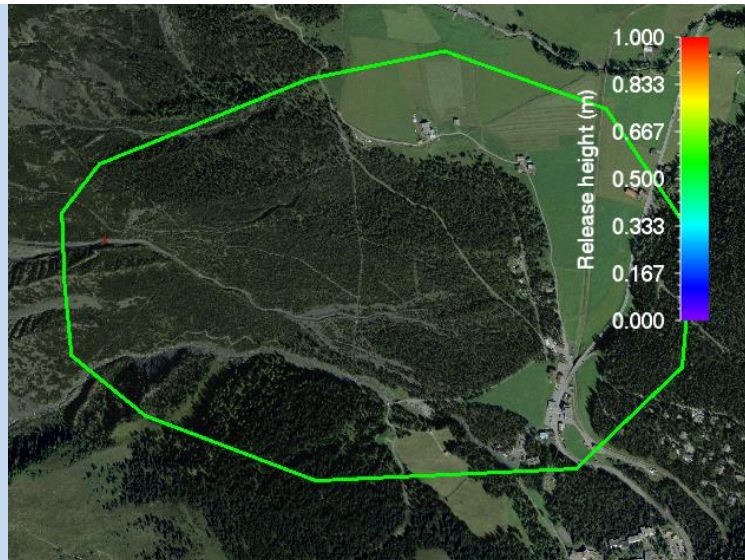

Figure 3.41: Input file with a rough calculation domain
- Draw a rough calculation domain as explained above, see Figure 3.41 below.